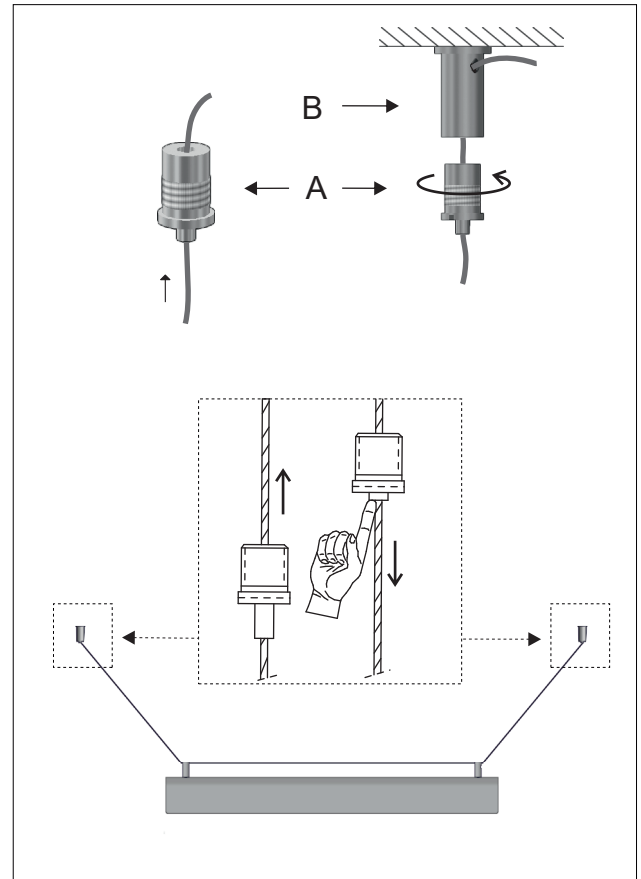

Figure 2
- 2 - Run the steel cable through one of the gripper supports (A) and then through the side hole of the tensor (B). Screw the gripper support (A) back to the tensor (B). Figure 2